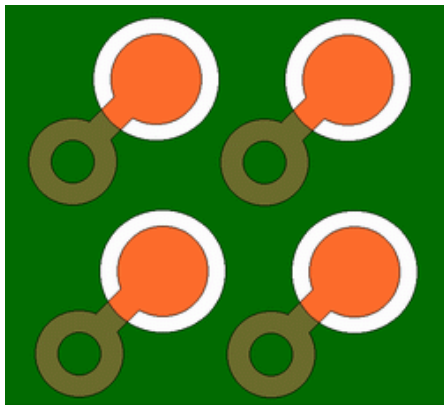

Figure 38: BGA Testing pad.
- [58] If an in circuit testing (ICT) point is added under the BGA, it is recommended to lead out the testing pad from the via hole as shown in figure 38. The diameter of the test pads should be 32mil; solder mask opening is 40mil.